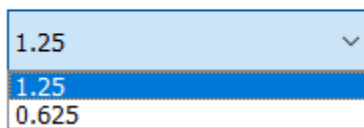

Fig.10 Charge Ref Voltage pull-down menu
The Charge Ref Voltage (V) pull down menu (Fig.10) allows selection between the default value (1.25) or $\frac{1}{2}$ of the reference voltage (0.625) in order to approximately double the Charge Time per the equation in the datasheet.